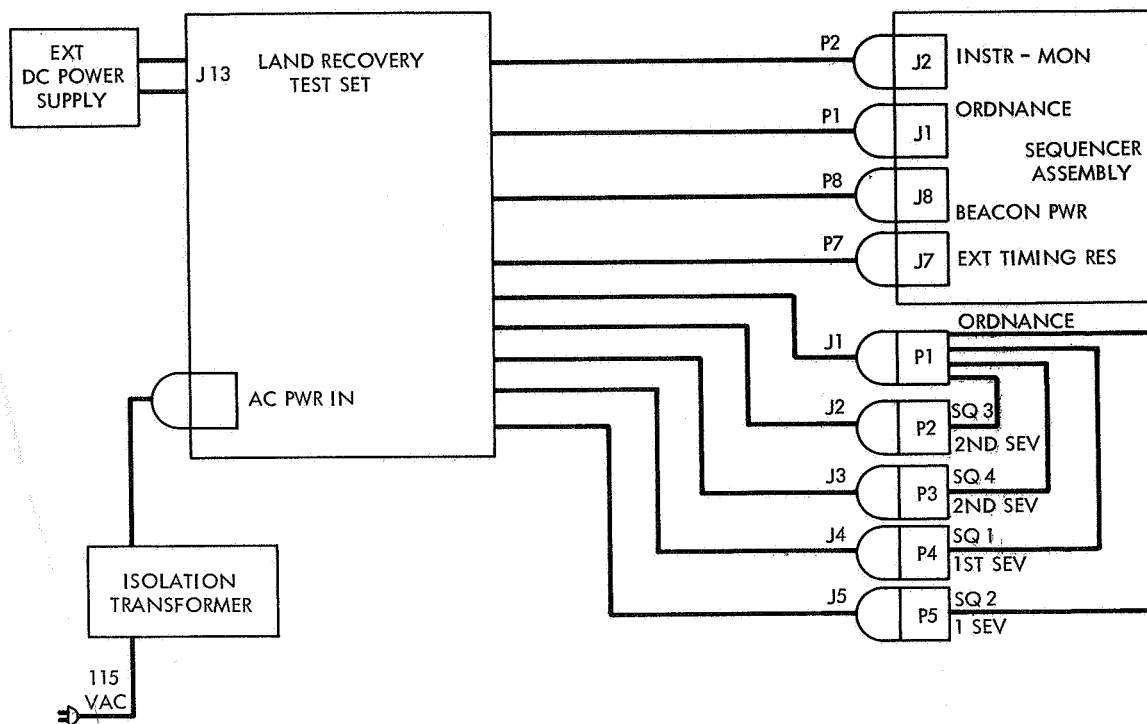

Figure 2-1. Initial Test Setup
- (1) Measure no-load voltage and record on data sheet A2.
- (2) Apply load, measure voltage at T + 0 minutes, and record on data sheet A2.
- (3) Measure voltage at T + 1 minute and record on data sheet A2.
- (4) Measure voltage at T + 3 minutes and record on data sheet A2.
- (5) Measure voltage at T + 5 minutes and record on data sheet A2.
- (6) Measure voltage every 5 minutes (until T + 50 minutes) and record on data sheet A2.
- (7) Replace each battery that has discharged to below 1 volt per cell and repeat steps a through c for each new battery.
- e. Connect sequencer assembly to land-recovery-system test set (GSFC drawing number GDZ-12-207C) as shown in Figure 2-1.
- a. Connect sequencer assembly to land-recovery-system test set (GSFC drawing number GDZ-12-207C) as shown in Figure 2-1.